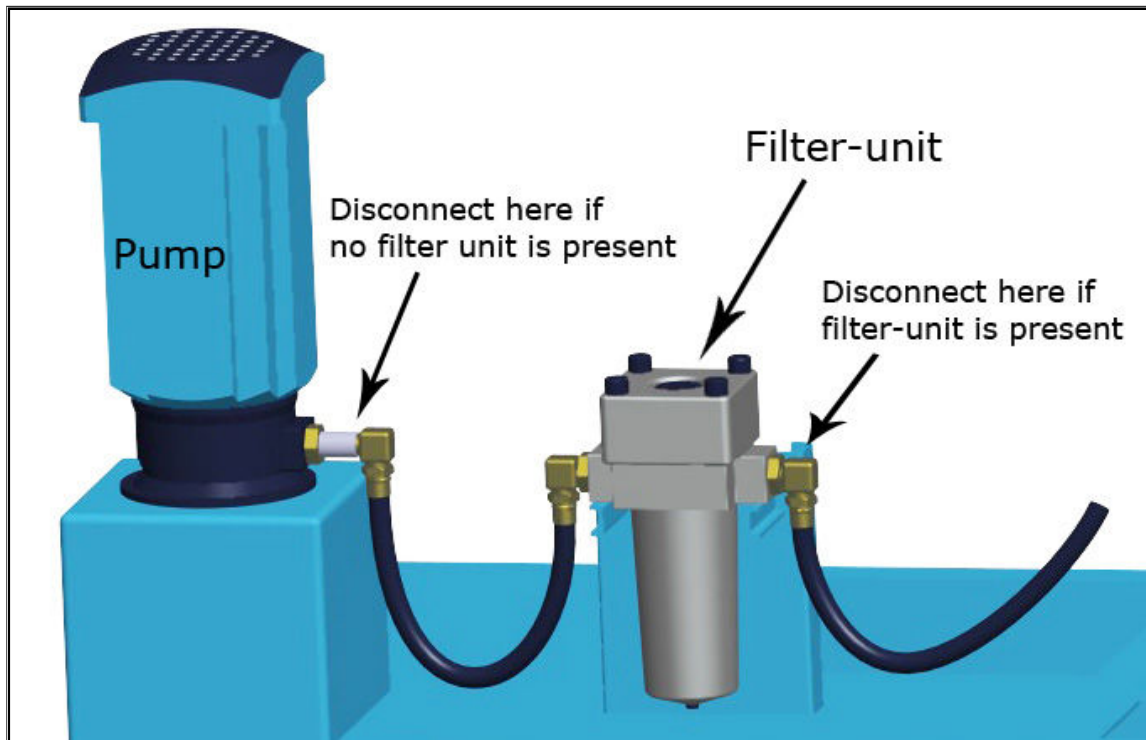

Fig. 2
3. The hose supplying coolant or cutting oil to the machine tool is disconnected at the location specified in the illustration below (Fig. 2).